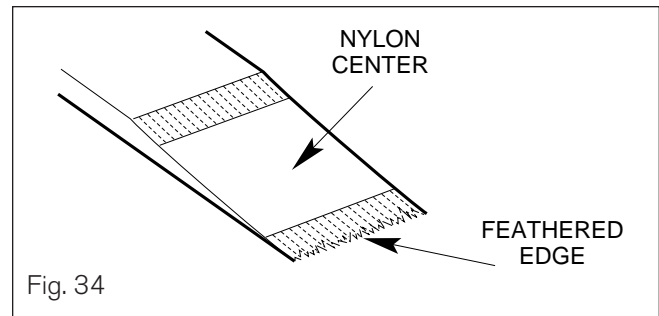

Fig. 34
- 4 Slowly turn the belt feed wheel, moving the ends of the belts into the rotating abrasive drum to complete the grinding process. Check the ends of the belts to be sure they are properly feathered (Fig. 34, page 28). If they are not, move the belt forward a little and repeat the grinding process.
NOTE: Make sure that the belt edge is properly feathered to ensure a suitable belt thickness after welding. (Fig. 34).